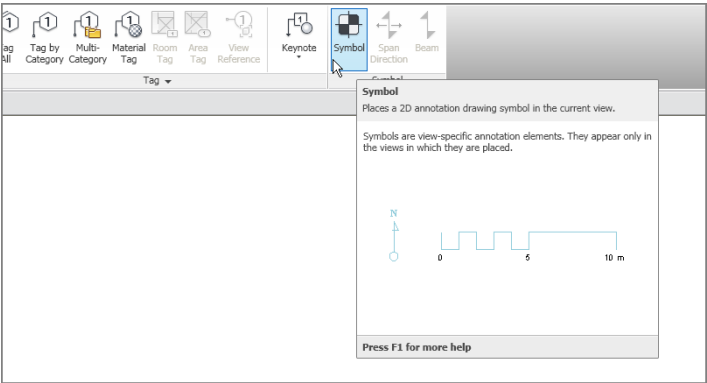

FIGURE 11.46: Clicking the Symbol button on the Annotate tab
- 5. On the Symbol panel of the Annotate tab, click the Symbol button, as shown in Figure 11.46.